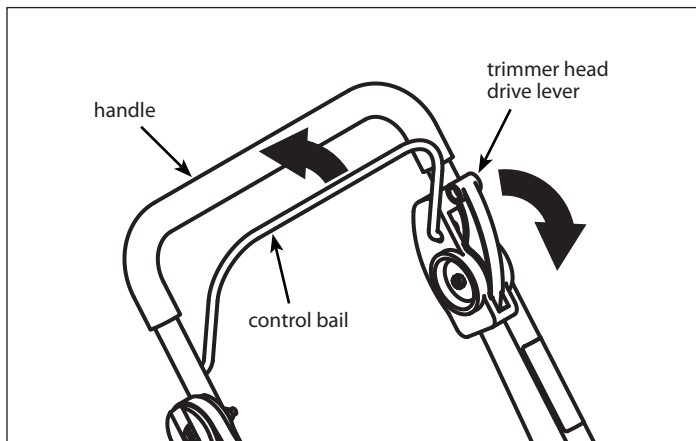

FIGURE 5: Using the trimmer head drive lever
1. To engage the trimmer head, hold the control bail against the handle. Move the trimmer head drive lever forward to engage the trimmer head. The faster the engine runs, the faster the trimmer head will rotate. **SEE FIGURE 5**